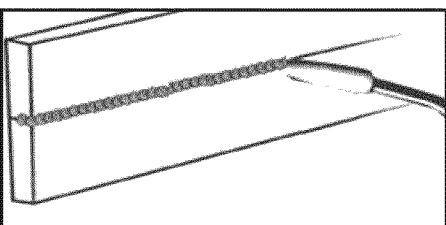

Fig. 10b
- HORIZONTAL POSITION is performed very much the same as the flat weld except that angle B (see HOLDING THE TORCH) is such that the wire is directed more toward the metal above the weld joint. This helps prevent the weld puddle from running downward while still allowing slow enough travel speed. A good starting point for angle B is about 30 degrees DOWN from being perpendicular to the work piece. (Fig. 10b)